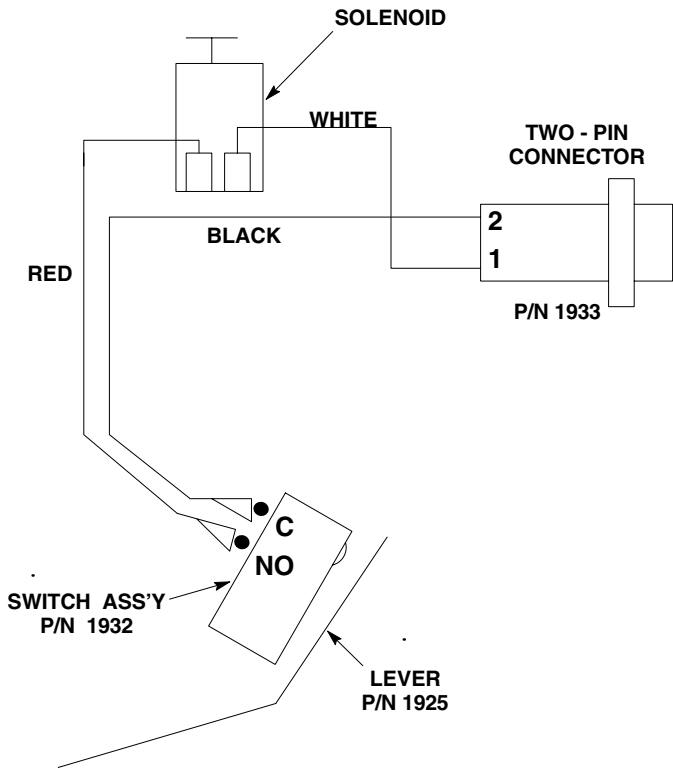

Figure 1. Wiring Diagram (UF-1 Dispensing Valve)
2. Tag electrical wires for identification. Then disconnect Control module wires from solenoid coil and unit wiring harness connector. See electrical diagram, Figure 1, 2, 3, 4.